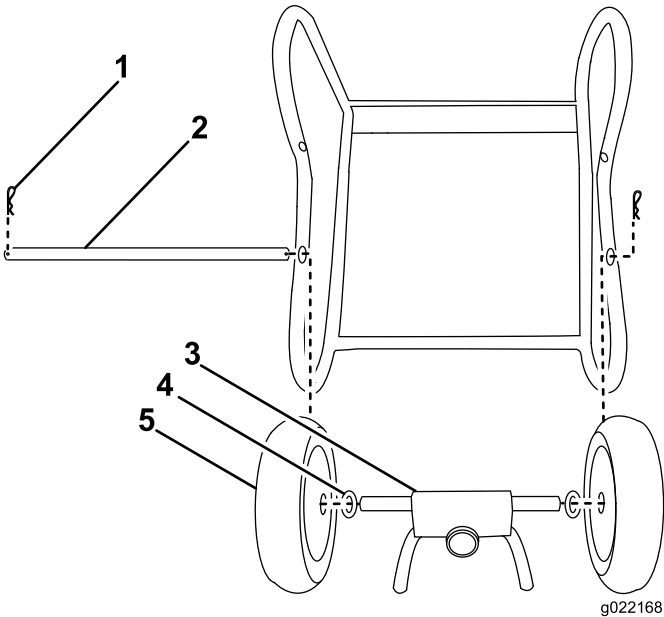

Figure 3
- Slide the axle rod into the frame of the machine; refer to Figure 3.
- Slide the axle rod, wheels, washers, and pivot mount plate into place; refer to Figure 3.
- Secure the wheels and axle rod in place with cotter pins; refer to Figure 3.